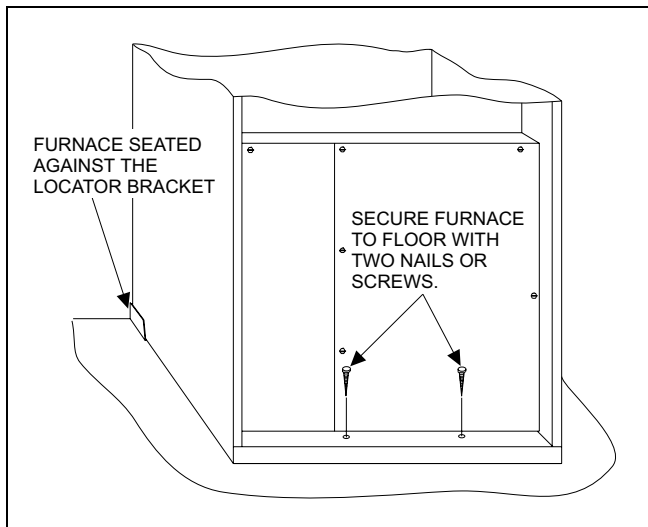

**FIGURE 12 : Duct Connector Tab Attachment**
3. Place locating bracket (supplied with the duct connector) to the rear of the floor area for the furnace. See Figure 12.